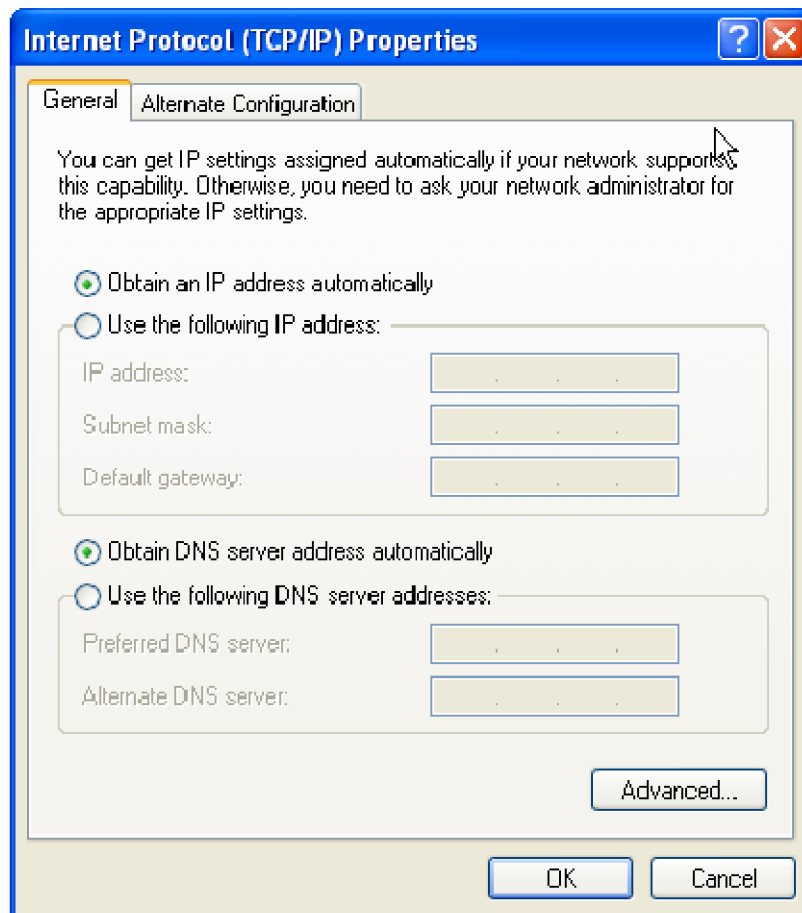

Figure 17: IP Properties dialog box
5. Scroll down the list and select **Internet Protocol (TCP/IP)**, and then click **Properties**. The Internet Protocol (TCP/IP) Properties dialog appears. (See Figure 17.)